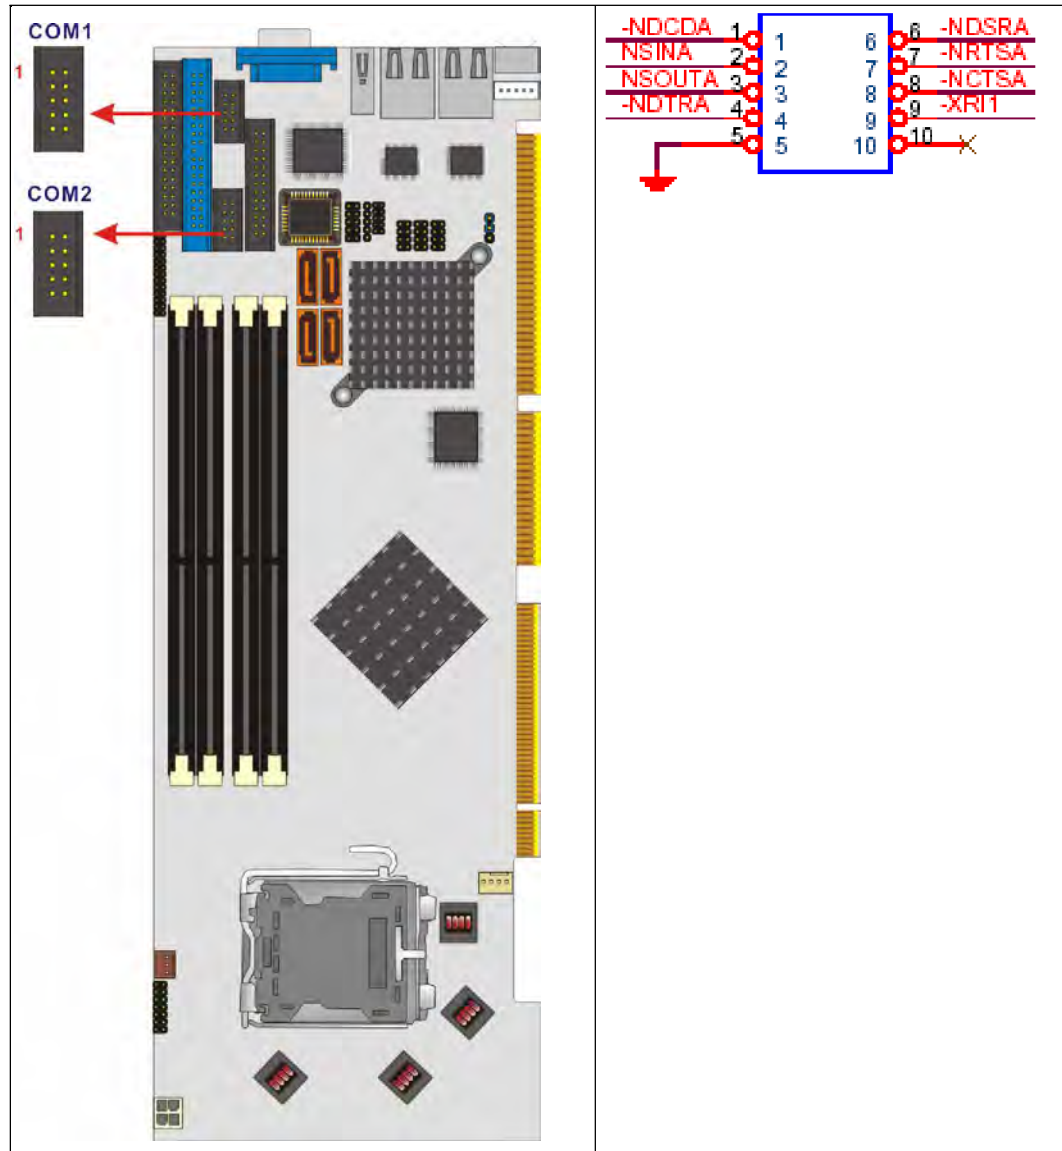

Figure 3-14: RS-232 Serial Port Connectors Location
**CN Location:** See **Figure 3-14**